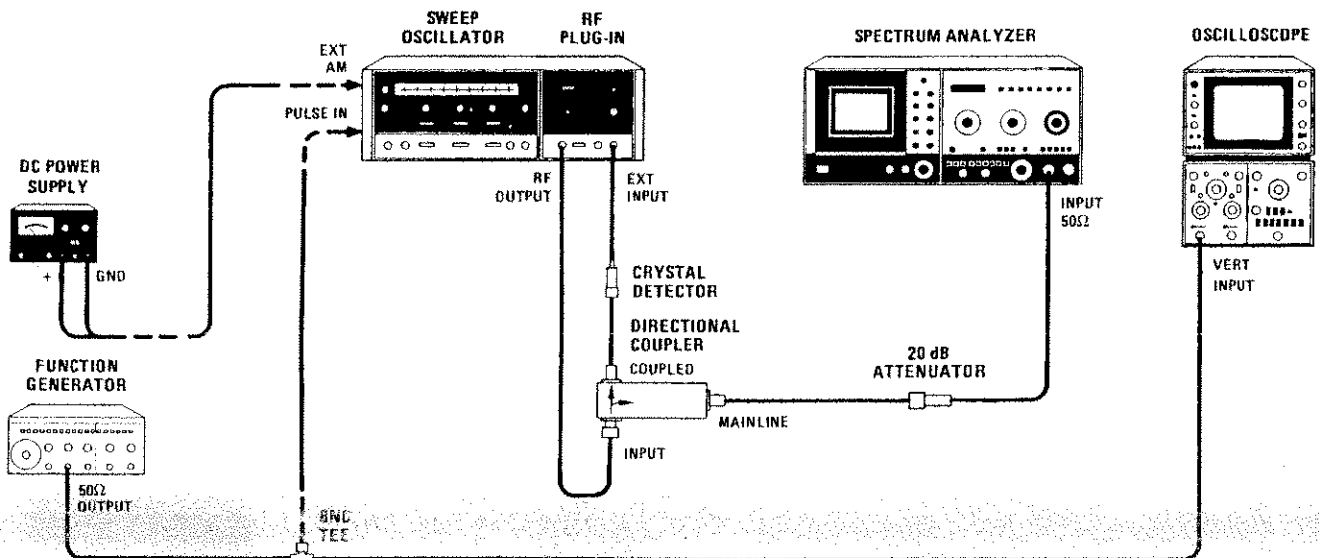

Figure 4-21. Amplitude Modulation Test Setup
- a. Connect equipment as shown in Figure 4-21, with spectrum analyzer connected to 20 dB attenuator and power supply connected to rear-panel EXT AM connector. Press 8620C LINE pushbutton to ON. Allow 30 minutes warmup time.
- f. Connect function generator to rear-panel PULSE IN connector and to CH A input of oscilloscope as shown in Figure 4-21. Set function generator for 27.8 kHz square wave and adjust for 6V peak-to-peak output as shown on oscilloscope (10  $\mu$ SEC/DIV).